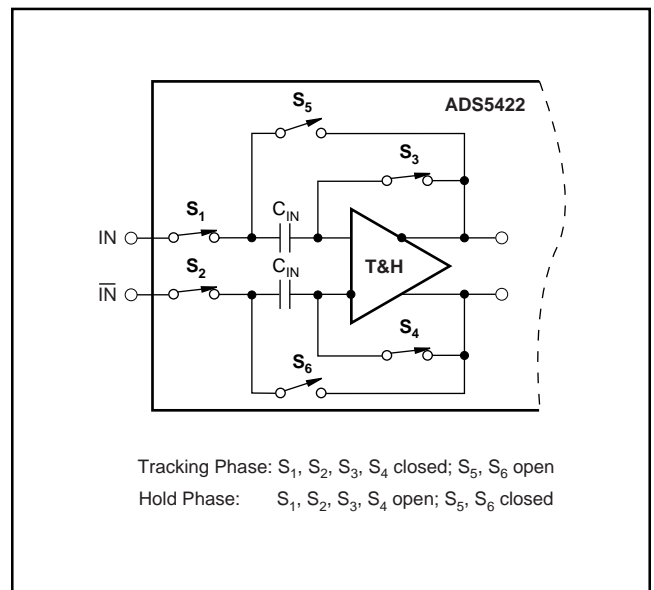
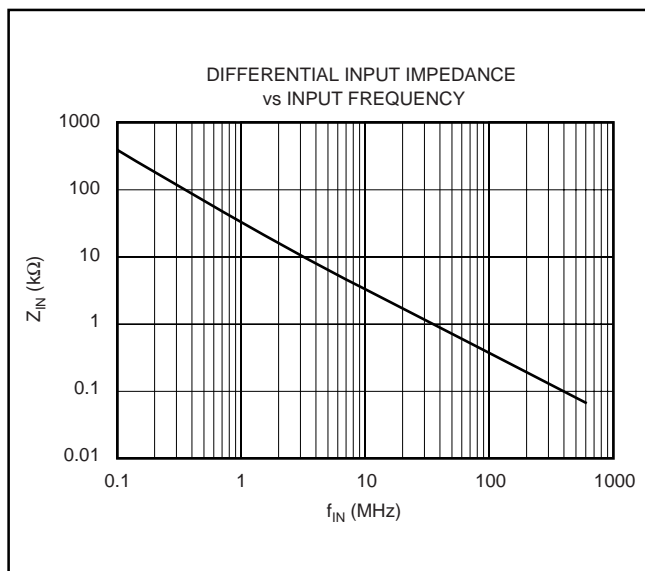

FIGURE 1. Simplified Circuit of Input Track-and-Hold Amplifier.
FIGURE 2. Differential Input Impedance versus Input Frequency.
The analog input of the ADS5422 consists of a differential track-and-hold circuit, as shown in Figure 1. The differential topology produces a high level of AC performance at high sampling rates. It also results in a very high usable input bandwidth—especially important for Intermediate Frequency (IF) or undersampling applications. Both inputs (IN , \overline{IN}) require external biasing up to a common-mode voltage that is typically at the mid-supply level ($+V_S/2$). This is because the on-resistance of the CMOS switches is lowest at this voltage, minimizing the effects of the signal-dependent, nonlinearity of R_{ON} . The track-and-hold circuit can also convert a single-ended input signal into a fully differential signal for the quantizer. For ease of use, the ADS5422 incorporates a selectable voltage reference, a versatile clock input and a logic output driver designed to interface to 3V or 5V logic.
The input of the ADS5422 is capacitive, and the driving source needs to provide the slew current to charge or discharge the input sampling capacitor while the track-and-hold amplifier is in track mode (see Figure 1). This effectively results in a dynamic input impedance that is a function of the sampling frequency. Figure 2 depicts the differential input impedance of the ADS5422 as a function of the input frequency.